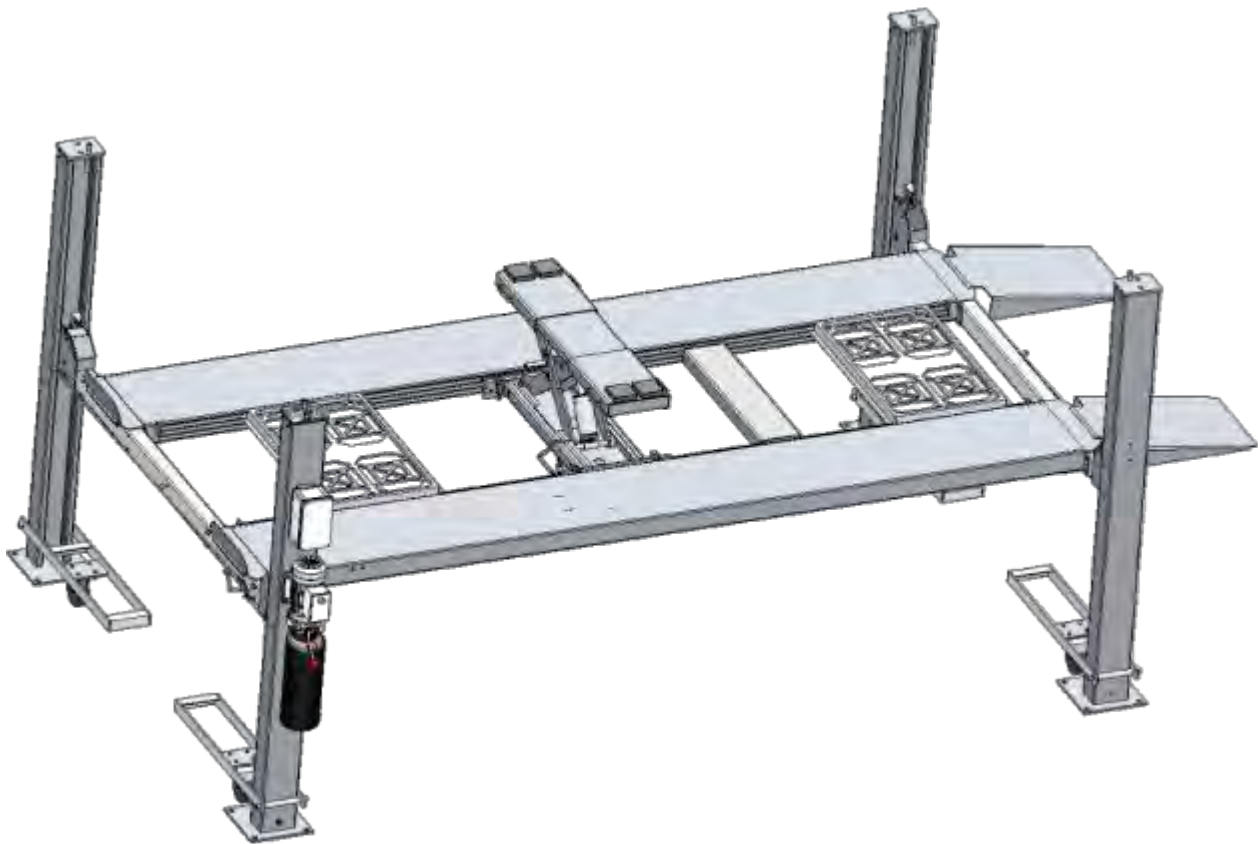

Fig.1
I. PRODUCT FEATURES AND SPECIFICATIONS(See Fig. 1)